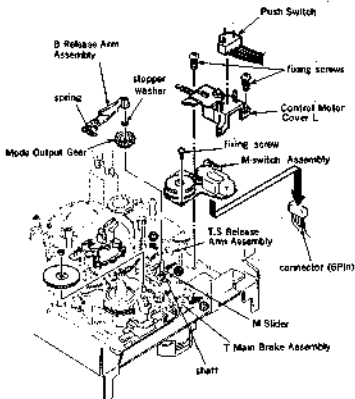

Fig. 2
- (1) Replace the M-switch Assembly with a new one.
- (2) Assemble the parts with Removal Steps (10) to (13) in reverse order.
- (3) Check that the mechanical block is put into **EJECT** mode.
- (4) Check that the M Slider moves fully in the direction of arrow D, (fig. 2)
- (5) Apply a half drop of oil on the shaft of the Mode Output Gear, (fig. 2)